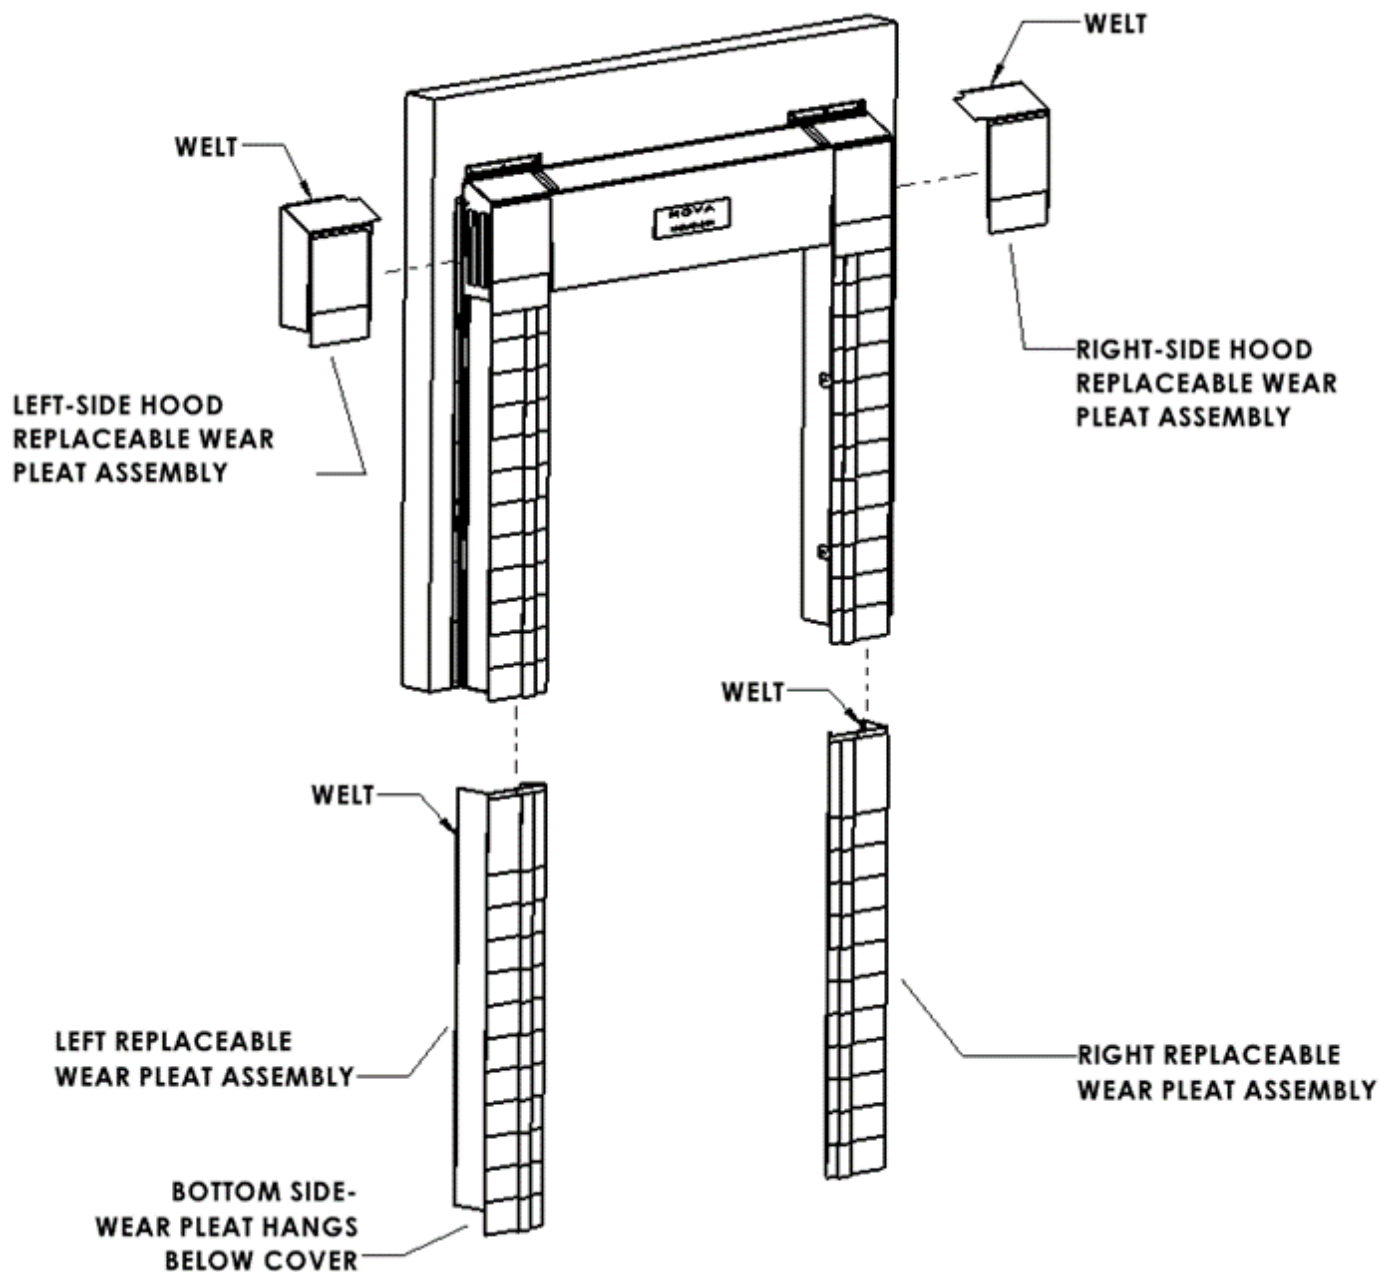
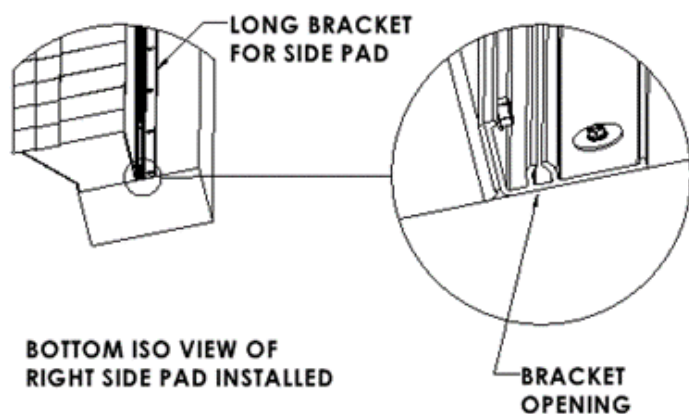
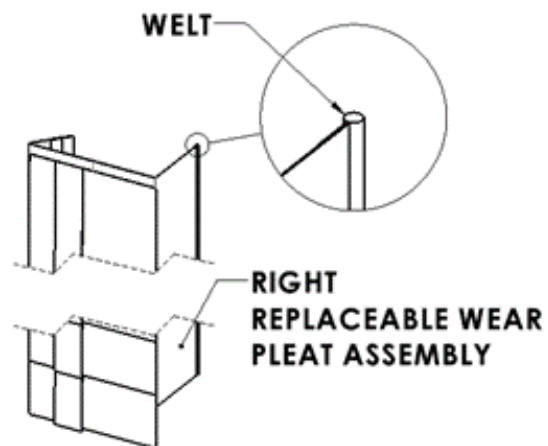

FIGURE 1
FIGURE 2
FIGURE 3
**1. INSTALL RIGHT REPLACEABLE WEAR PLEAT ASSEMBLY (B) ON THE RIGHT-SIDE PAD:**
- Take the Right Replaceable Wear Pleat Assembly (B) and slide the welt side up into the bottom of the Long Bracket opening (Figure 1, Figure 2, Figure 3 & Figure 4). Slide it upward until the bottom Wear Pleat on the Right Replaceable Wear Pleat Assembly is aligned directly in front of the bottom Wear Pleat on the Right-Side Pad.